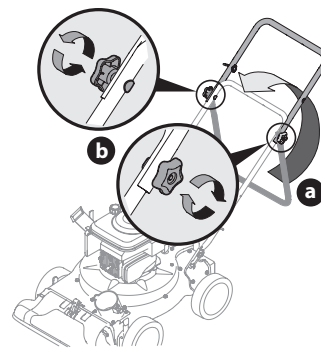

Figure 2
2. Unfold the upper handle until it aligns with lower handle. Make sure the rope guide is on the right side of upper handle. See a in Figure 2.
3. Secure the two handles by tightening the star knobs (carriage bolts must be seated properly into the handle). See b in Figure 2.